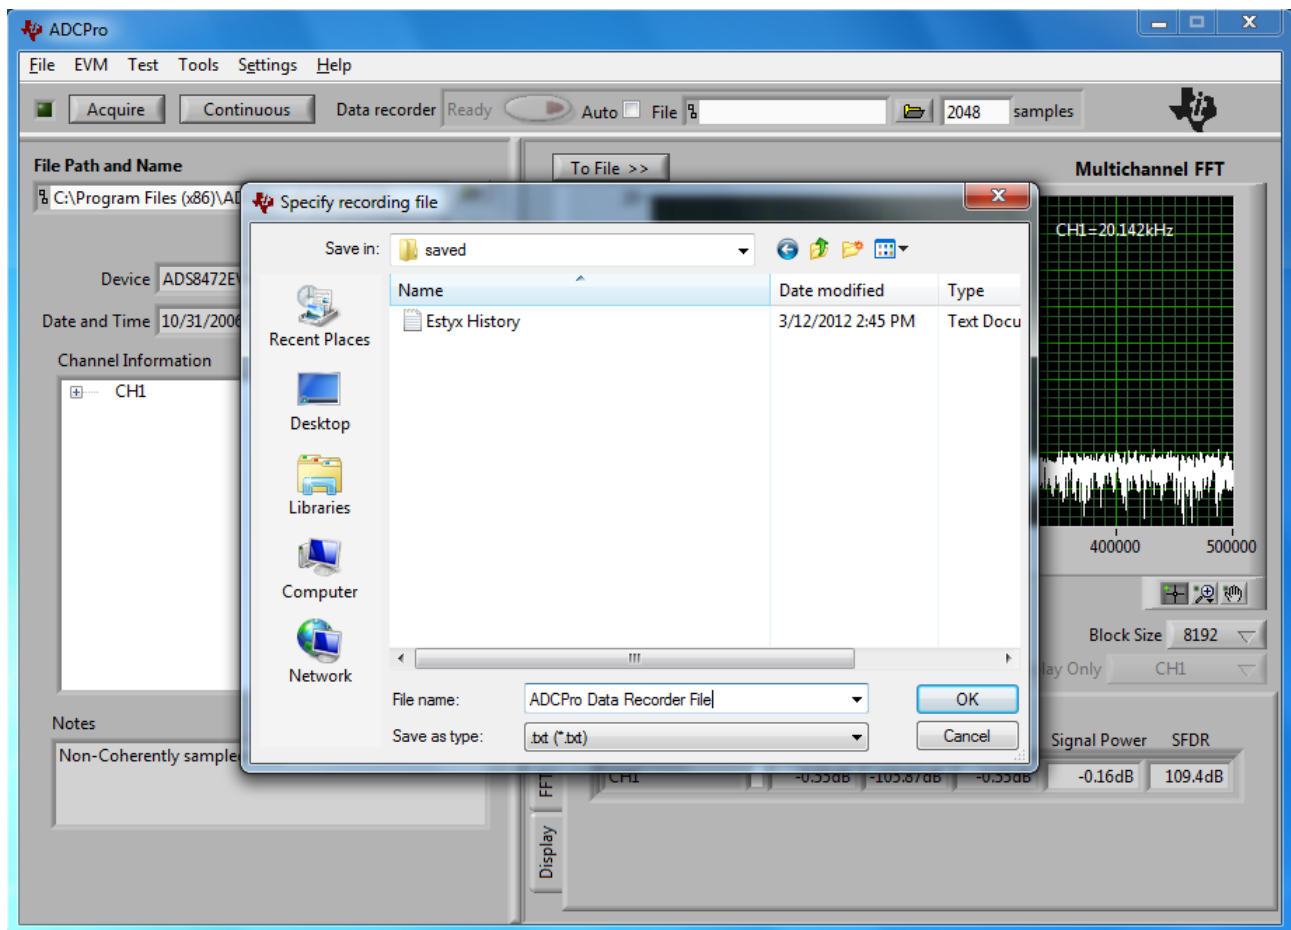

Figure 29. Selecting a File to Record Data
1. Click the small folder icon in the Data Recorder. A file dialog box opens, as displayed in Figure 29.